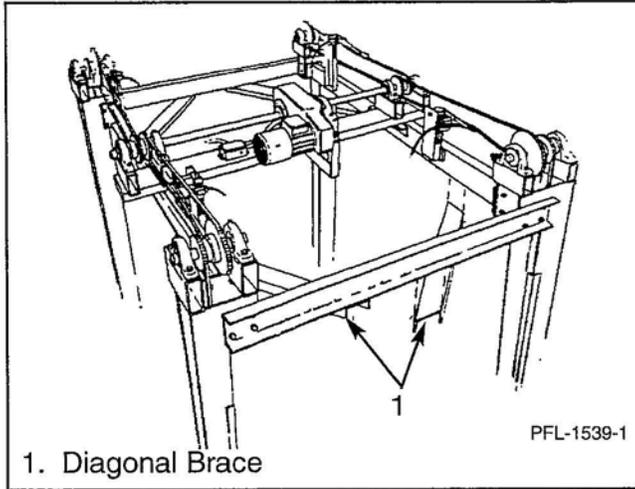

Figure 35
42. Install four diagonal braces across the channel braces at the top of the unit and weld into position. See Figure 35.